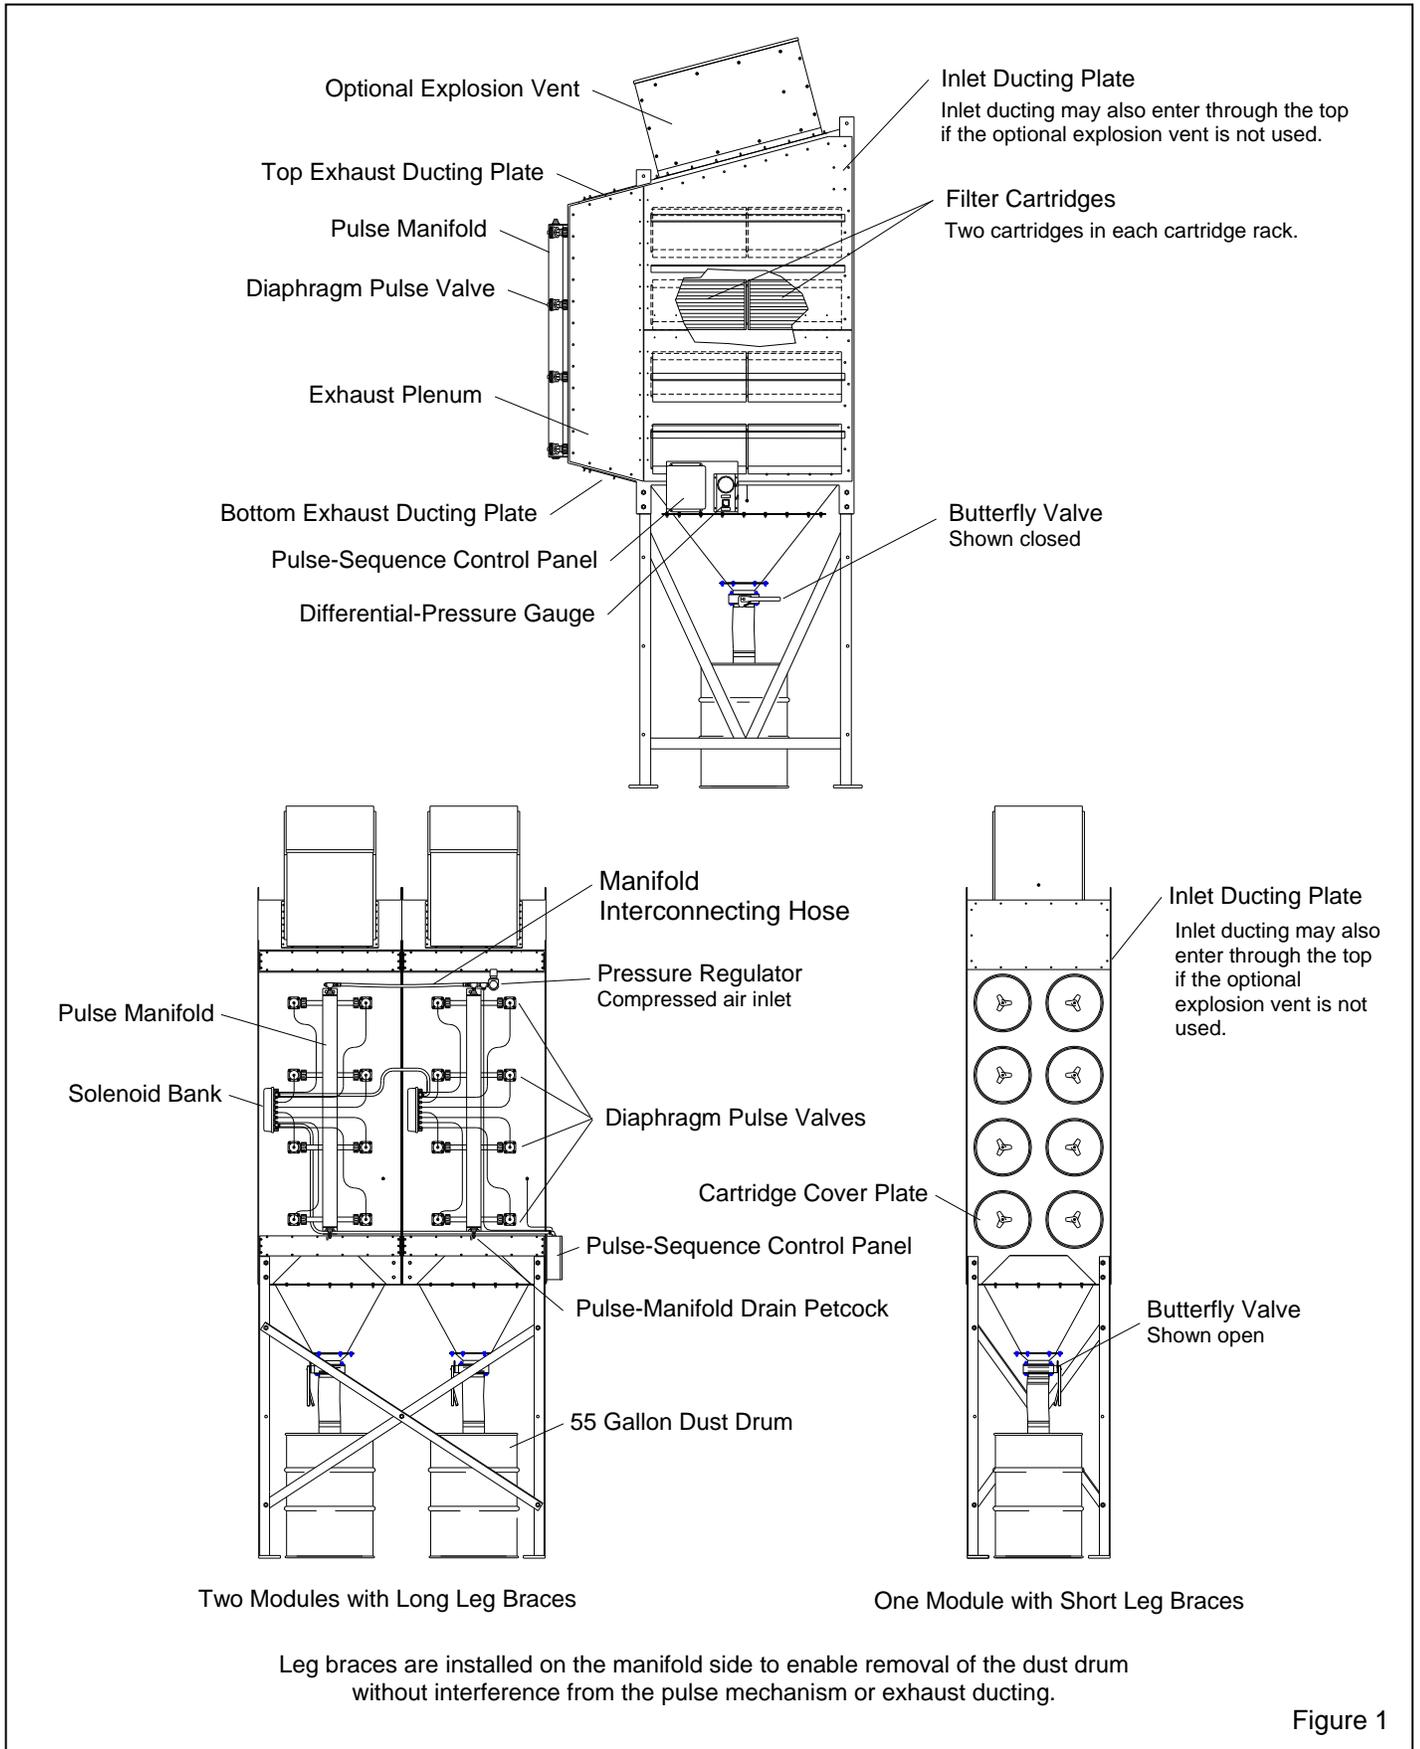

Figure 1
1.4.3 All illustrations used in this manual show CDF-8 modules. Except where noted, assembly and operation are the same regardless of the body size. A typical general arrangement is shown in Figure 1.
3.4.4 Drain pulse manifolds. The drain cock is mounted at the bottom of each manifold. Refer to Figure 1. Drain whenever the air supply is turned OFF.
4.1.1 The pulse pressure regulator is located on the manifold inlet. Start the pulse cycle with the pressure at 70 psi. An additional manifold pressure gauge is mounted on the differential-pressure panel to enable monitoring pressure from ground level. The panel is usually mounted on the back, right side of the collector. Refer to Figure 1 and Figure 5.